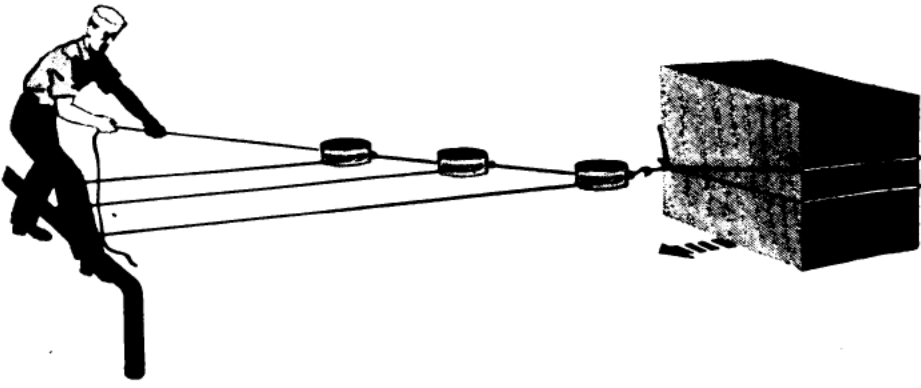

Figure 106.
4. Barney has come up with the Goldberg rig shown in figure 106, using three blocks and three falls. Is there any mechanical advantage in this rig? If so, how much?